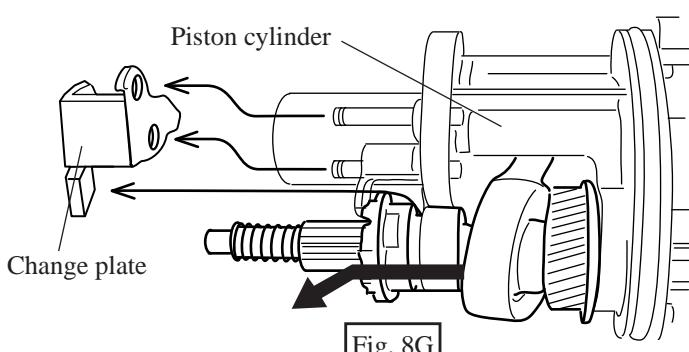

Fig. 8G
5. Bring piston cylinder to the dead point. And , twist the the swash bearing section, with pulling off them from inner housing. Then swash bearing section and change plate can be disassembled from piston cylinder. See Fig. 8G.